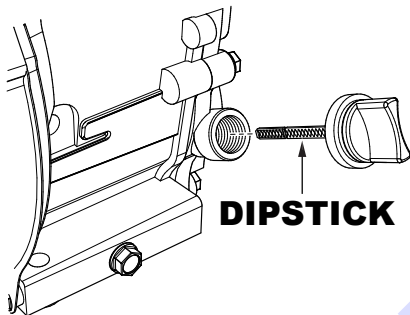

Figure 14. Engine Oil Dipstick (Removal)
2. Remove the filler dipstick from the engine oil filler hole (Figure 14) and wipe clean.